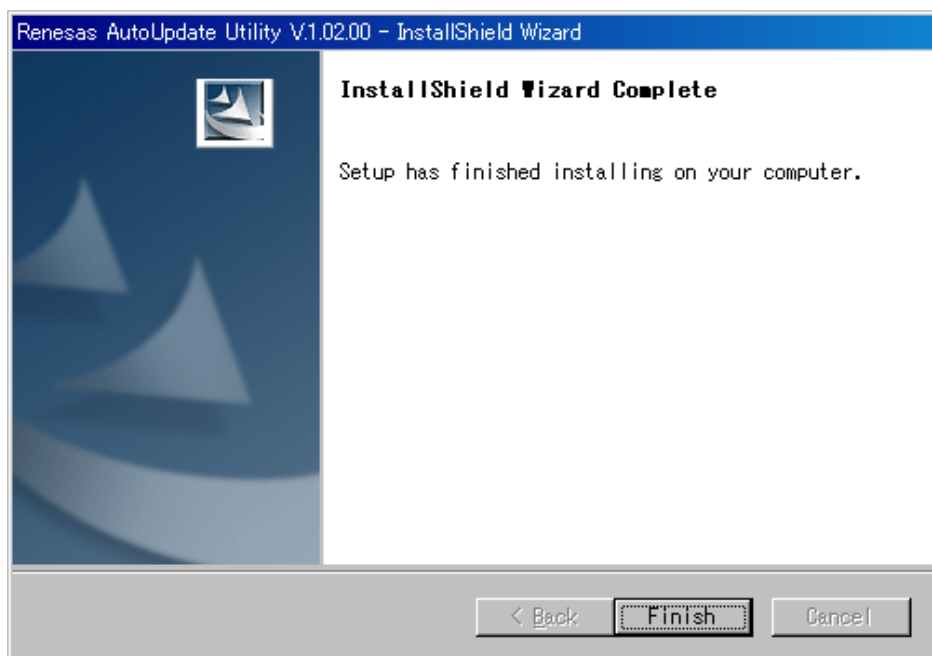

Figure 3.2.6 E10A-USB Software Installation Procedure (6)
(6) When the installation is complete, the dialog shown in Figure 3.2.6 is displayed. Click "Finish".